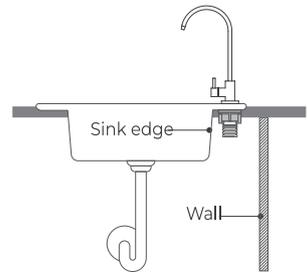

Figure 4
- Choose a suitable place to install the faucet and leave enough space for the mounting washer to avoid touching the wall or sink. (**Figure 4**).